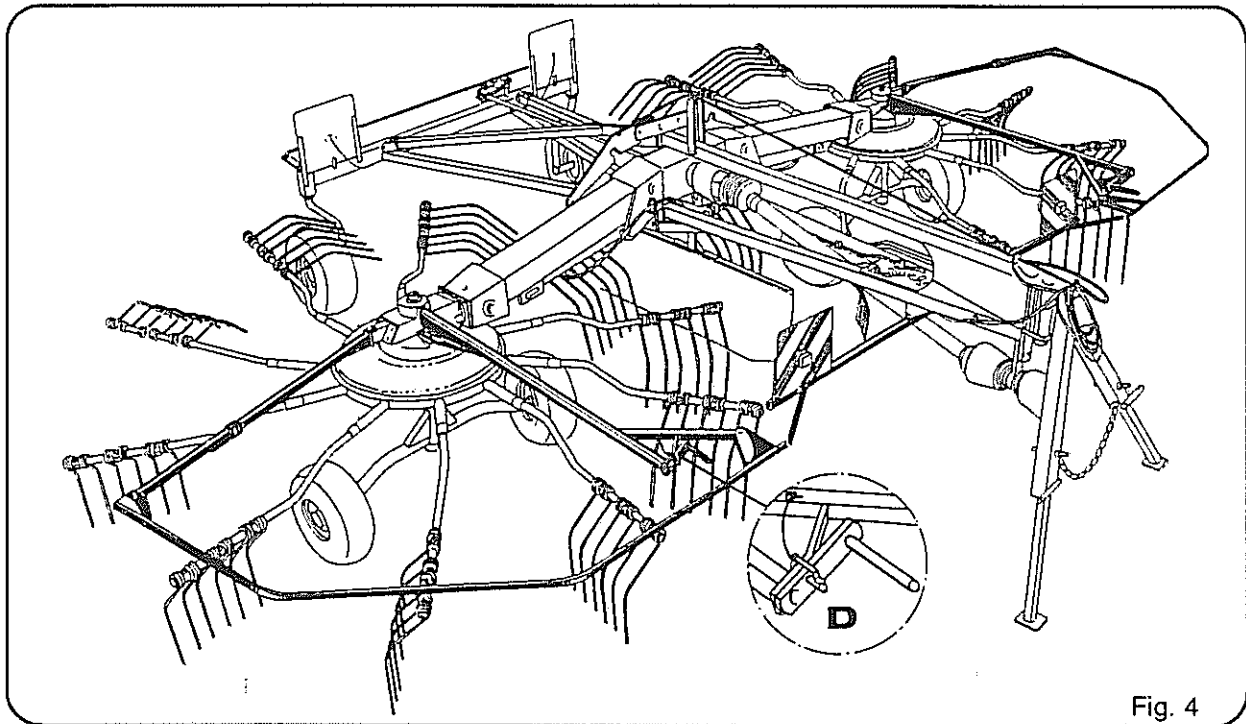

Fig. 4
1. The safety guard with crank handle for height adjustment of the rotor and centre safety frame must be attached (see fig. 4). Secure hand crank at left and right with tube lynch pins (fig. 4, pos. D)